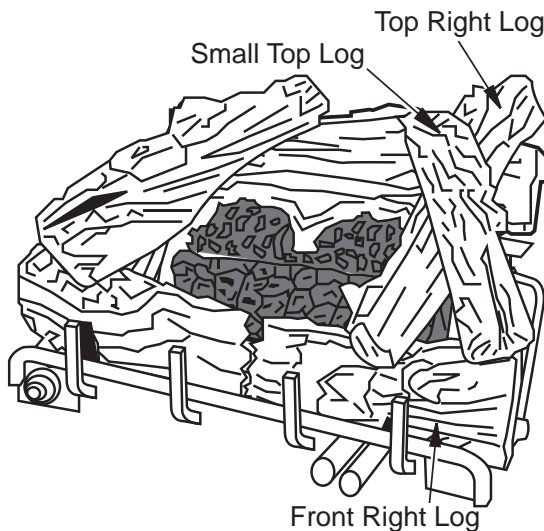

Figure 26 - Installing Log
- Place the small top right log as shown in **Figure 26**. The bottom of the log is shaped to fit onto the recessed areas of the top right log and the front right log. The recessed areas are painted yellow.